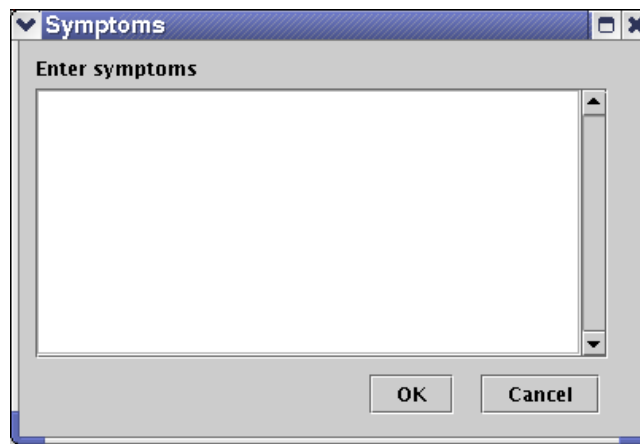

Figure 5-23. Symptoms Window
5.4.1.7.1 Symptoms of Failure Enter Button. The **Symptoms of Failure Enter** button allows the operator to describe the symptoms of a particular failure. After the button is pressed, the Symptoms window (Figure 5-23) will appear. The operator types a description of the symptoms into the dialog box. To save the data, the operator needs to select the **OK** button and the window will close. If the **Cancel** button is pressed while the window is open, the description in the window will be deleted, and the window will close.